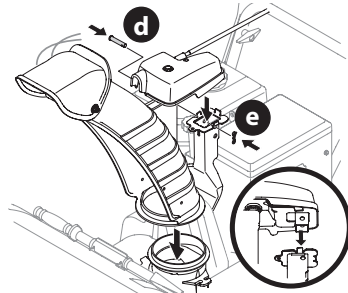

Figure 31
3. Place chute onto chute base and ensure chute control rod is positioned above lower handle. Secure chute control head to chute support bracket with clevis pin (d) and bow-tie cotter pin (e) removed in Step 1 (Figure 31).